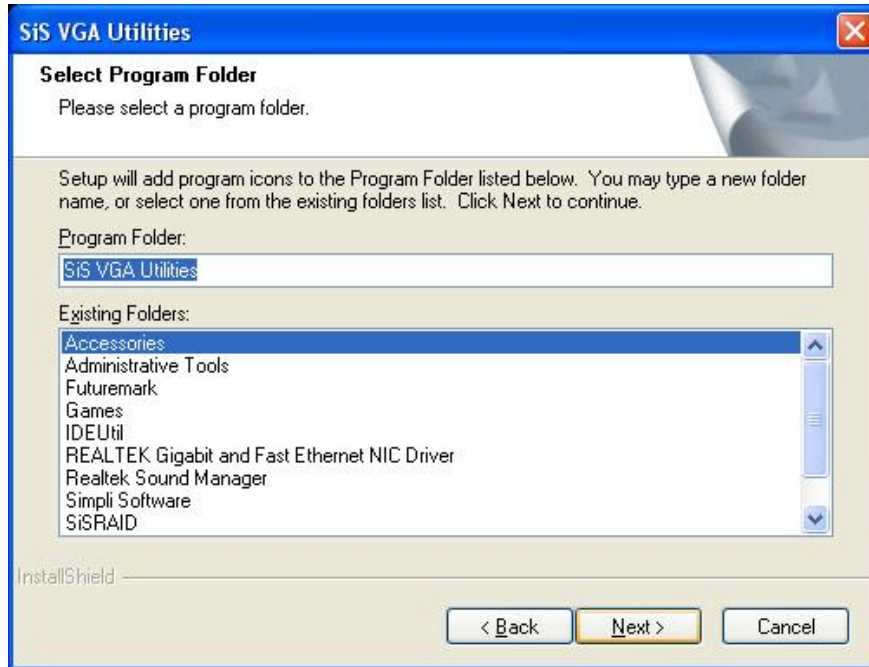

Figure 6-8: Select Folders to Copy Files
Step 9: You are then prompted to select a folder to copy the files in (see **Figure 6-8**). Once the setup type is selected, click on the **NEXT** button.